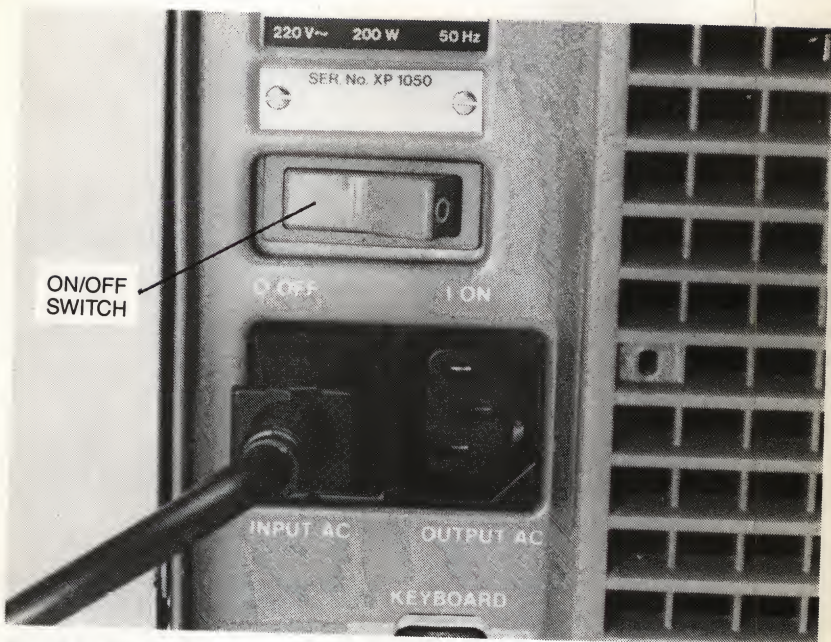

Fig. 2-6 ON/OFF Switch in the OFF Position
1. Make sure that the ON/OFF switch is in the OFF position (see Figure 2-6)